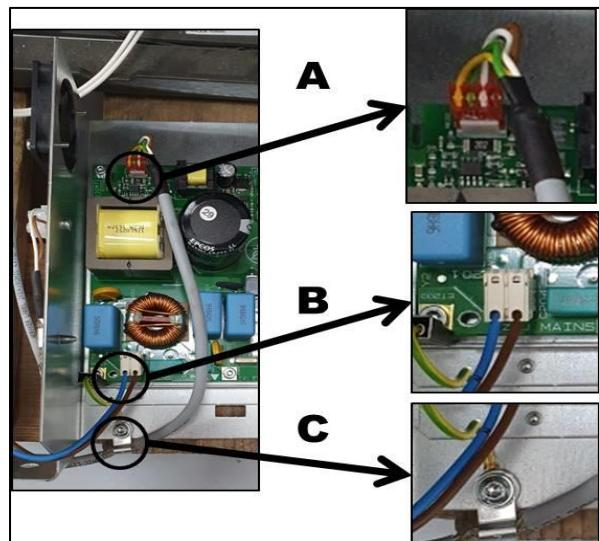

Fig.2.5
8. Disconnect the communication cable **A** (Fig.2.5).
9. Disconnect the power cables **B** (Fig.2.5).
10. Unscrew the communication cable **C** (Fig. 2.5).